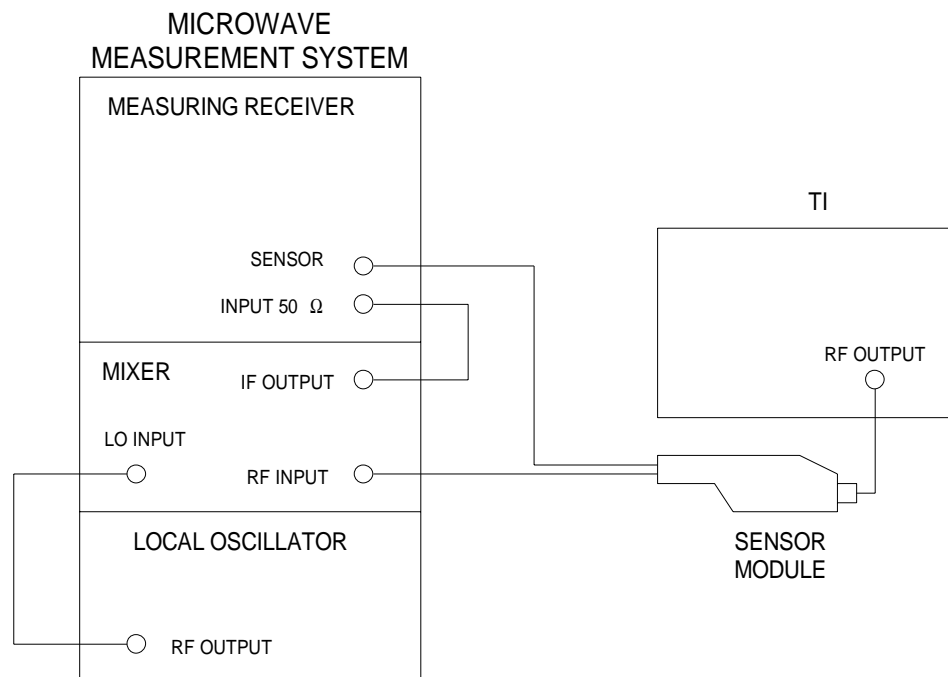

Figure 2.
4.2.3 Connect equipment as shown in Figure 2.